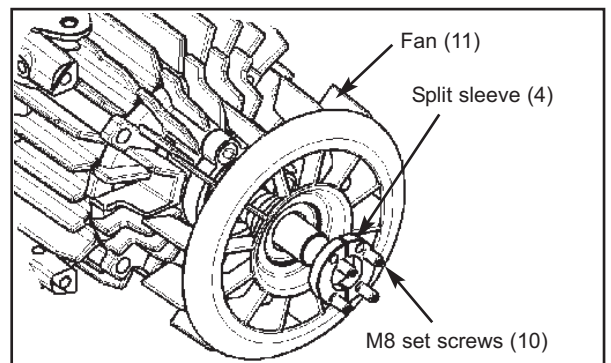

Figure 28
6. Attach the fans (11) and split sleeves (4) with the M8 set screws (10) coated with Loctite® * 243. Torque the set screws to 11 lbs ft (15 Nm) ; See figure 28.